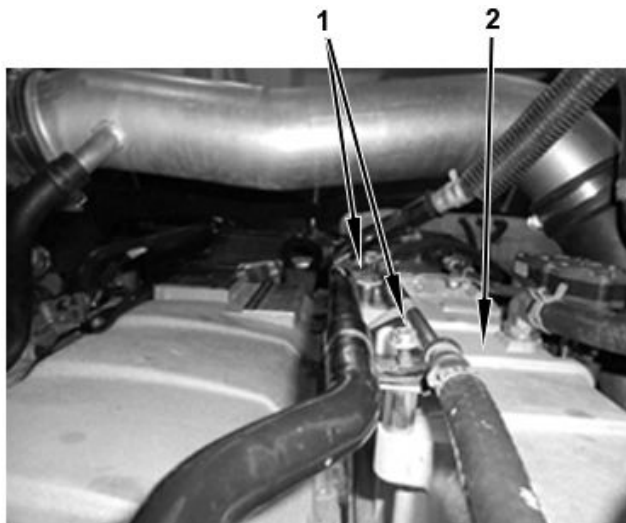

Figure 6. Cab Heater Supply Tube Brackets.
8. Remove cab heater supply tube support brackets (Figure 6, Item 1) from EGR cooler (Figure 6, Item 2).